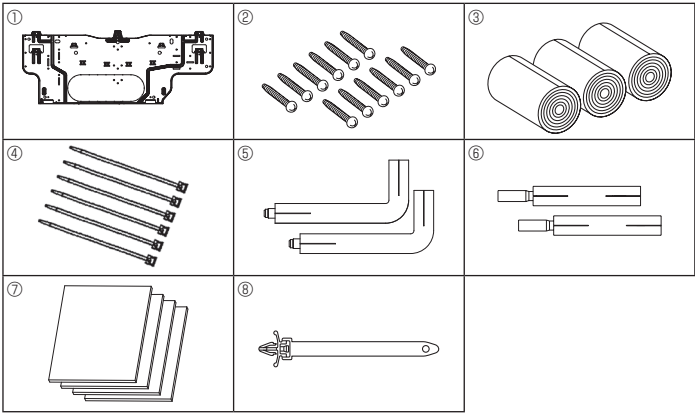

Fig. 3-1
3.1. Check the indoor unit accessories (Fig. 3-1)
- Ⓐ Mount board ① in Fig. 3-1
- Ⓓ Fixing screws (4 × 25) Ⓔ in Fig. 3-1
- Ⓕ Mount board Ⓘ in Fig. 3-1
Ⓔ Felt tape ③ in Fig. 3-1